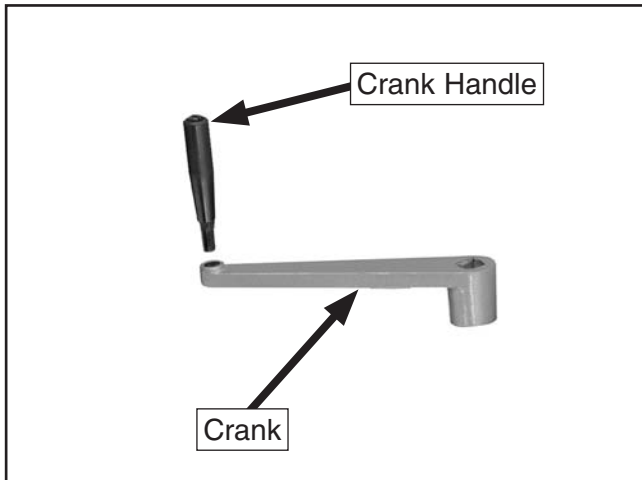

Figure 7. Crank assembly.
1. Thread the crank handle into the small end of the crank and tighten, as shown in **Figure 7**.